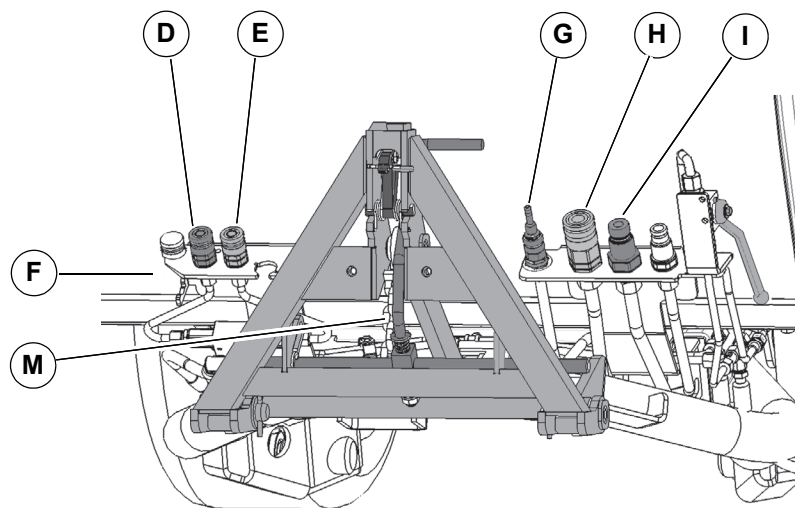

Fig. 119:
- Swivelling sweeping unit – supply/return = **Fig. 119-D/E**
- 19-pin coding plug = **Fig. 119-F**
- Fresh water connection for the spray nozzles = **Fig. 119-G**
- Sweeping unit hydraulic motors – supply/return = **Fig. 119-I/H**
10. Hook the chain **Fig. 119-M**.